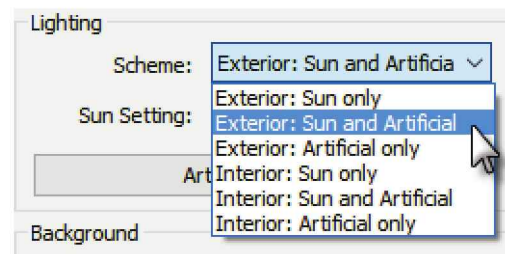

FIGURE 15-2.20 Lighting options
50. In the *Lighting* section, click the down arrow next to *Scheme* to see the options. Select **Exterior: Sun and Artificial** when finished (Figure 15-2.20).
52. Click on the **Artificial Lighting** button (Figure 15-2.20).